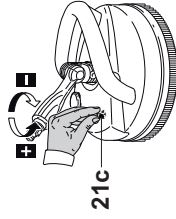

Fig. 18
3. Adjust the detergent spraying mode by the detergent adjustment (21c) (Fig. 18).